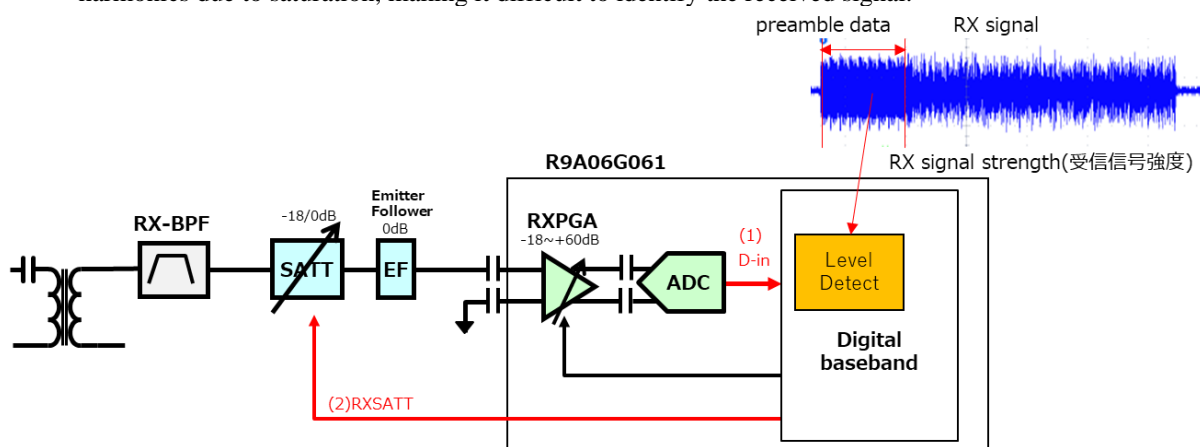
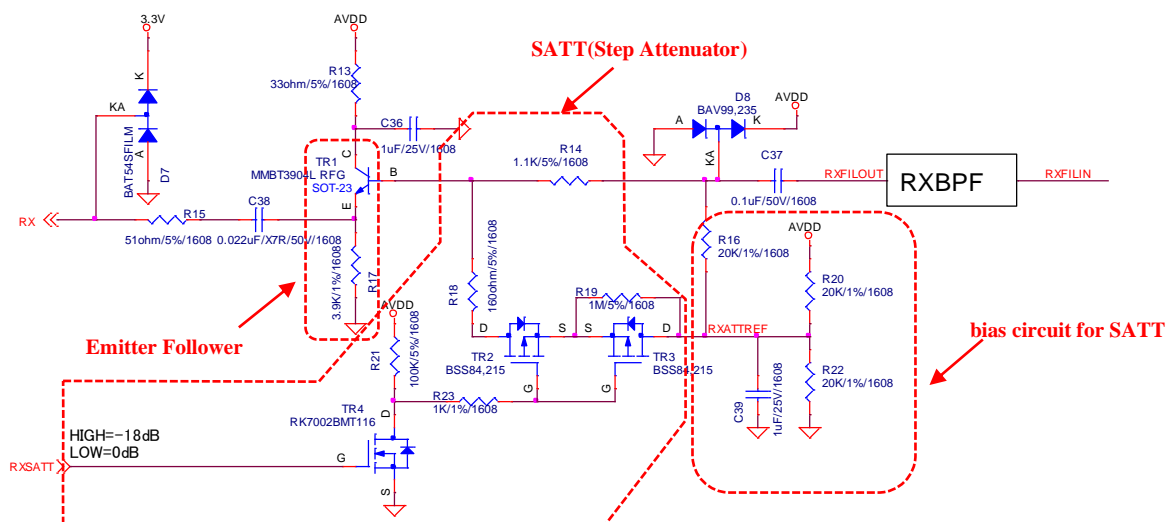

Figure 3-13 Step Attenuator (SATT) control method
Figure 3-14 Example of Step Attenuator (SATT) circuit
- Figure 3-13 shows how to control SATT.
- (1) Using the received preamble data, the level detection function of the digital baseband section determines whether the signal strength of the ADC output exceeds the signal level saturated in the receiving circuit.
- (2) When the signal level saturated in the receiving circuit is exceeded, the received signal is attenuated by switching the RXSATT signal from 0 to 1 and switching the SATT gain from 0dB to -18dB.
- Figure 3-14 shows an example of the SATT circuit used for the PLC board.